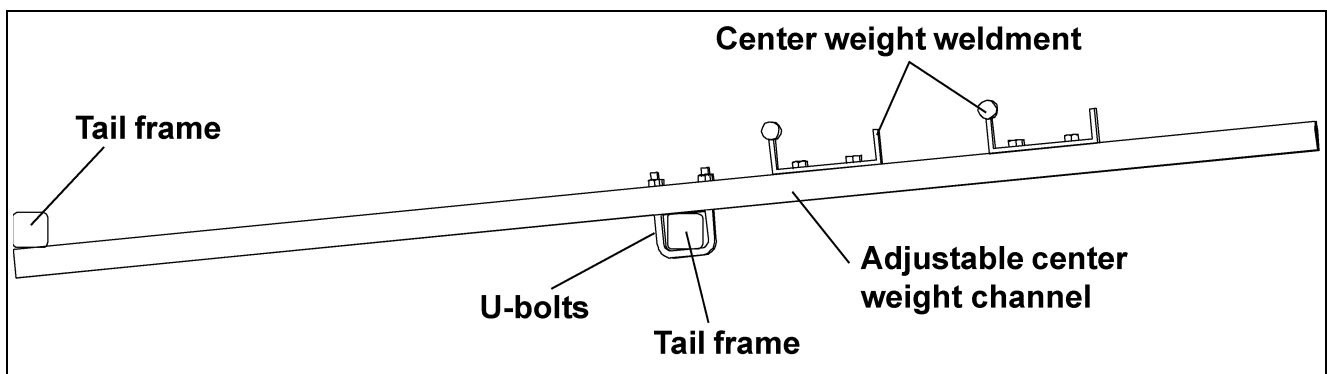

Figure 5U
- C. Place assembly on top of the back tail section, around the tires. The end of the adjustable center weight should be placed under the tail frame. (See Figure 5U.)